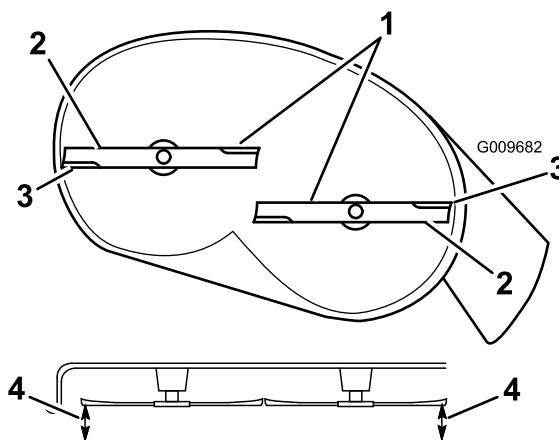
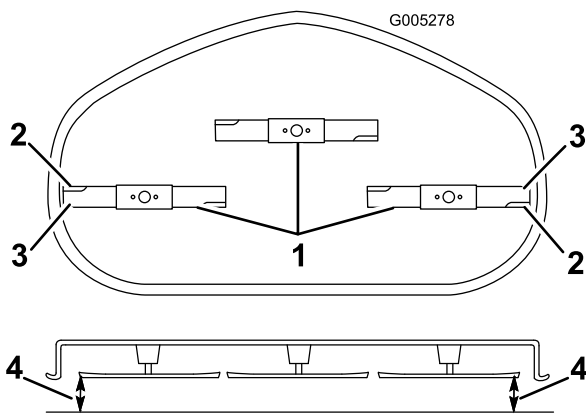

Figure 57
Figure 58
4. Carefully rotate the blades so that they are all side to side (Figure 57 and Figure 58).
5. Measure between the outside cutting edges and the flat surface (Figure 57 and Figure 58).